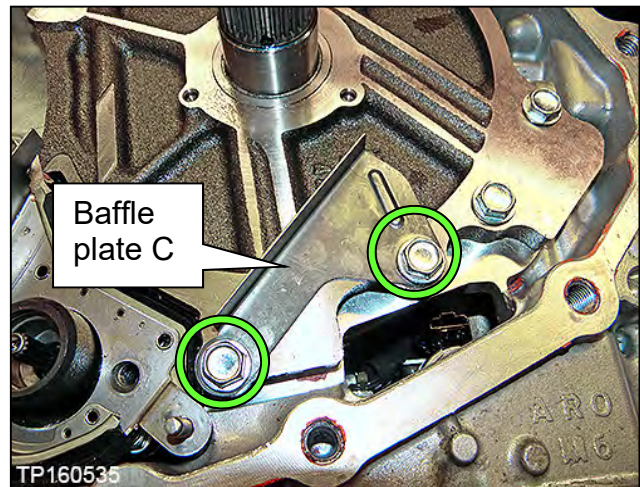

Figure 46
28. Remove the two bolts from baffle plate C, and then remove baffle plate C (Figure 46).